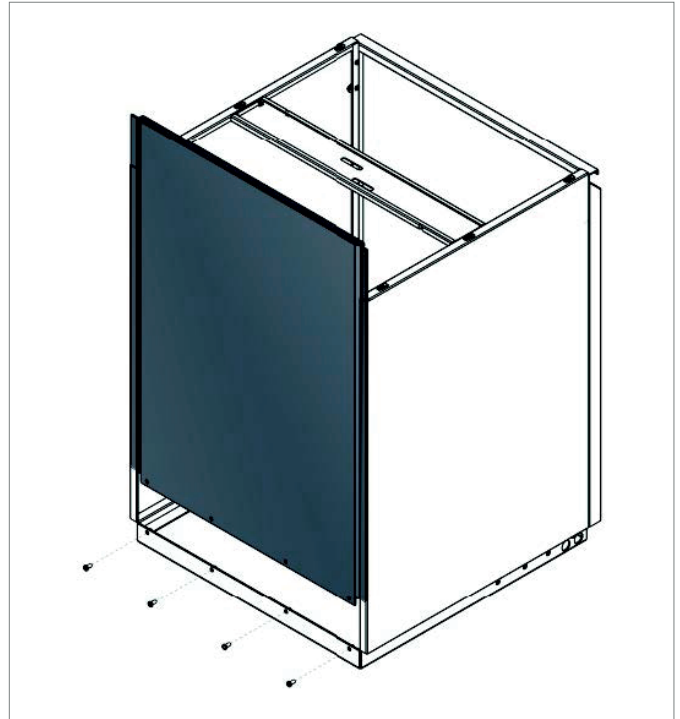

Figure 6-3: Gaining access to the condensate outlet (15/26 only)
3. Grip the top of the rear panel and pull it upwards. Slide it all the way up and out of the channels on the rear edge of the two casing side panels to remove it from the boiler. Refer to Figure 6-3.